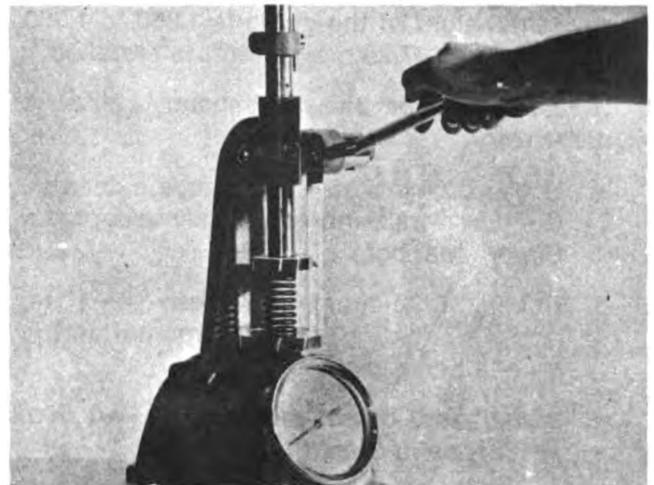

Fig. 2-16 (V10214). Test The Valve Spring.
1. Use the Part No. 33751b2 valve spring tester to test the valve spring, Fig. 2-16. Compress the spring to the "working length" given in Table 2. Check the amount of force required to compress the spring, if not within the limits given in Table 2, discard the spring.